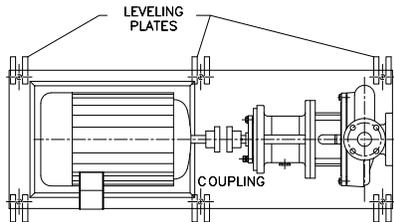

Figure 6
**Leveling:** (see figure 6 and 7)